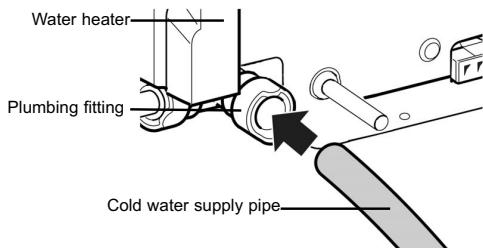

Fig. 21 Connect cold water supply
Step 11 Connection to Cold Water Supply (see Figs. 21 & 22)